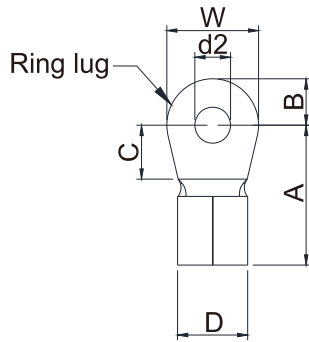
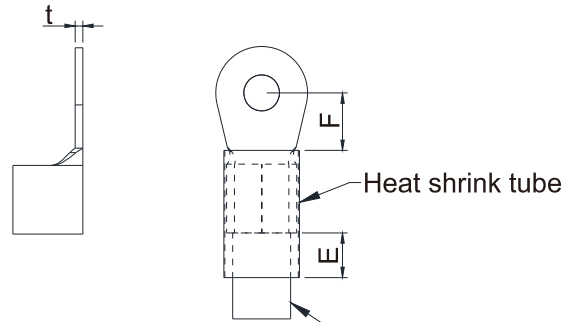

Figure 5-6
Figure 5-7
- Use the specified ring lug for main circuit terminal wiring. See Figure 5-6 and Figure 5-7 for ring lug specifications. For other types of wiring, use the wires that comply with the local regulations.
- After crimping the wire to the ring lug (must be UL approved), UL and CSA approved recognized component (YDPU2), install heat shrink tube rated at a minimum of 600 V_{AC} insulation over the live part. Refer to Figure 5-7.